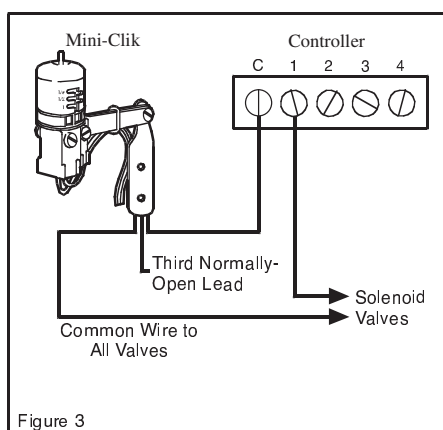

Figure 3
- 24 Volt Solenoid Valves Only (No booster pump) (See Figure 3)